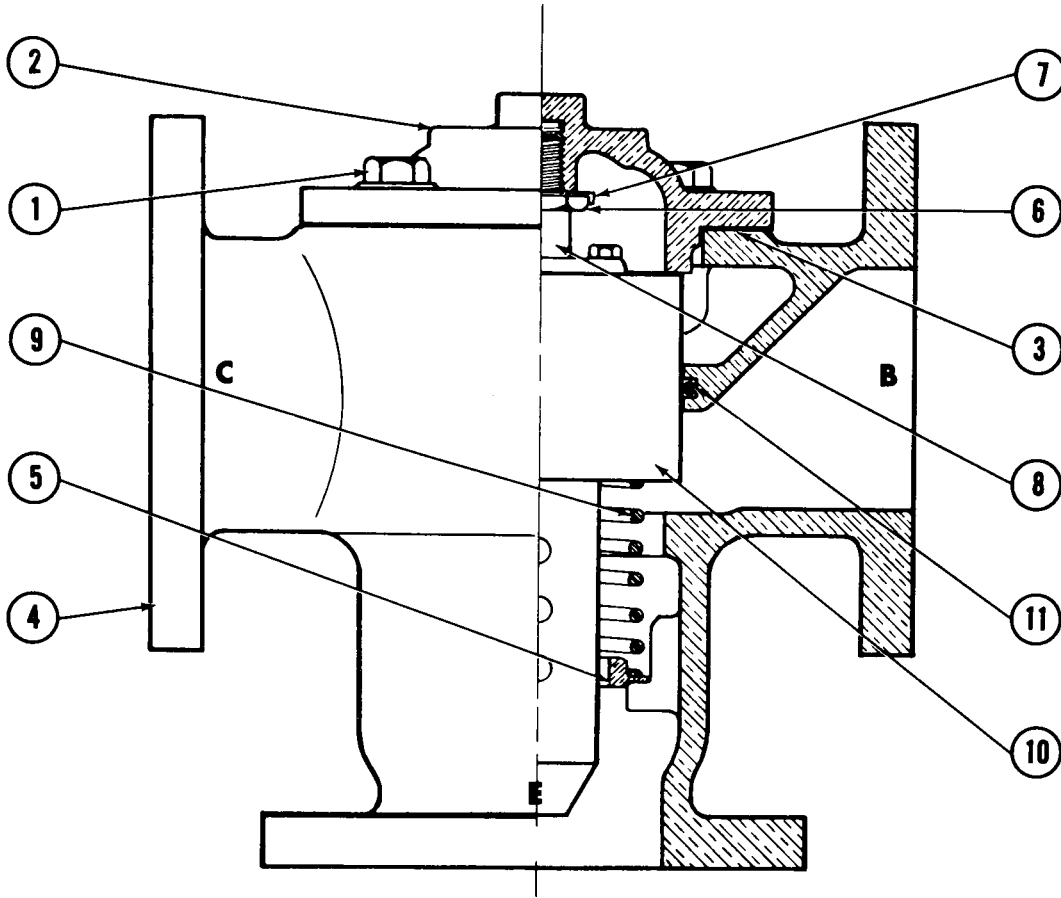

Figure 4
OPERATION - See Figure 4
4. Reassemble as shown in Figures 4 through 9, depending on valve size.